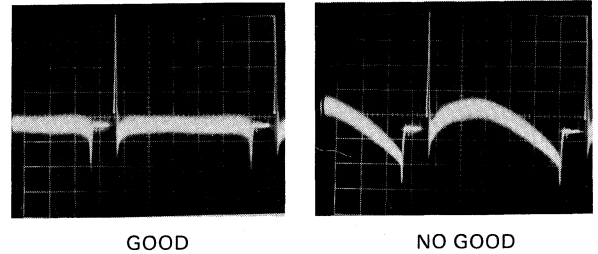

Fig. 4-2-43
(1) B signal horizontal shading adjustment
- Adjust B-H.PARA VR7 and B-H.SAW VR8 to make the waveform as flat as possible. (Fig. 4-2-43)